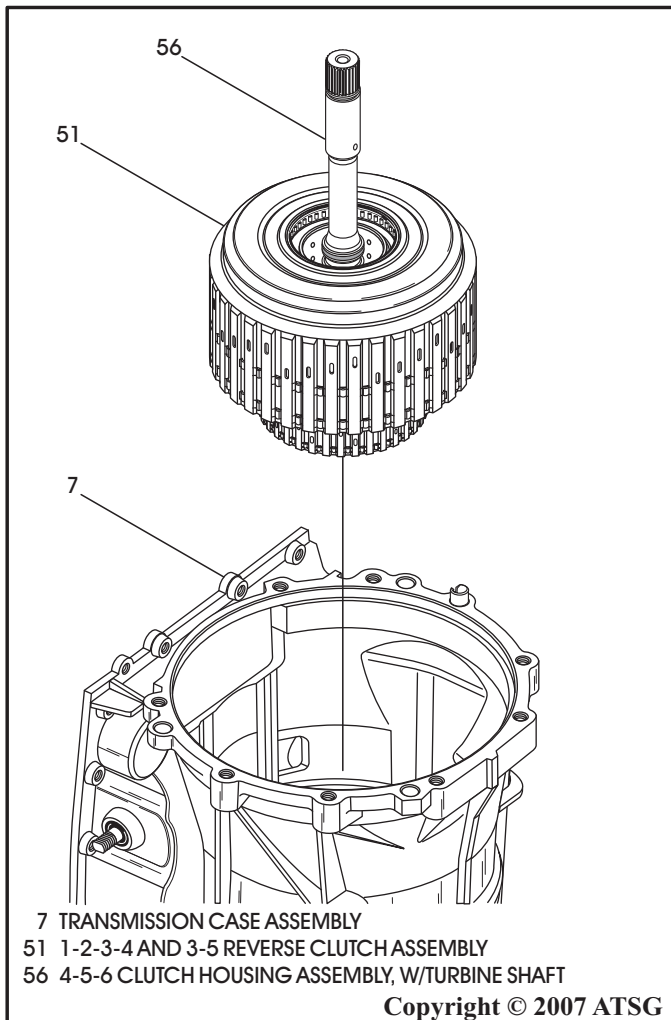

Figure 45
7. Remove the 4-5-6 Clutch Housing and the 3-5 Reverse Clutch drum as a complete assembly by lifting straight up using the turbine shaft, as shown in Figure 45.